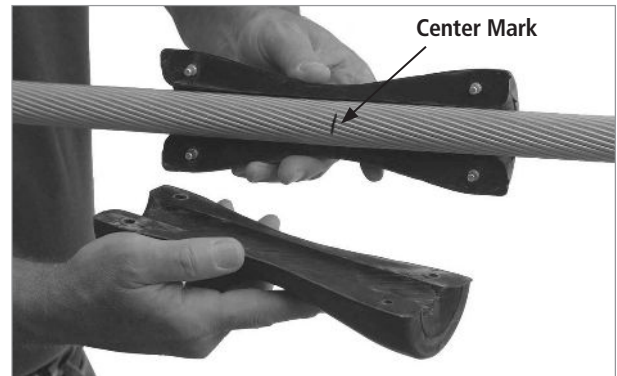

FIGURE 2: Center insert on mark
- 3.01** Center the halves of the insert at the mark on the long armor rod set. Position the halves so that the flat faces are vertical as shown in *Figure 2*.